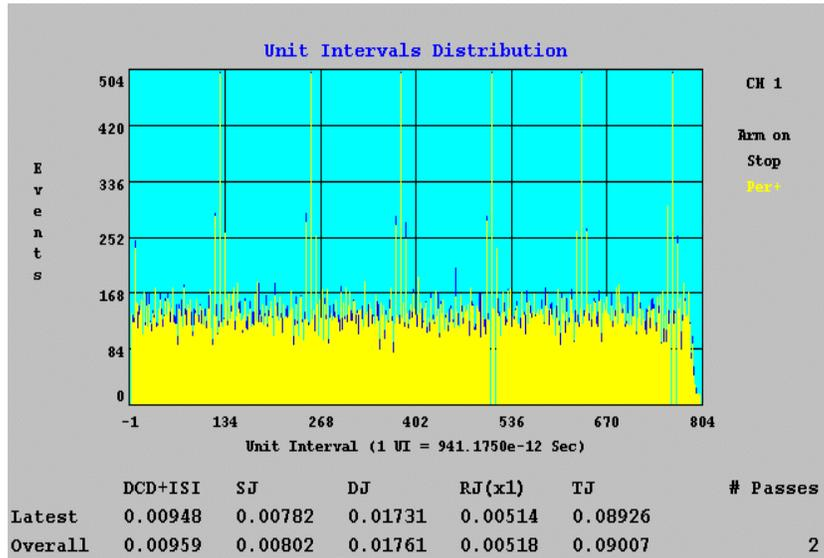
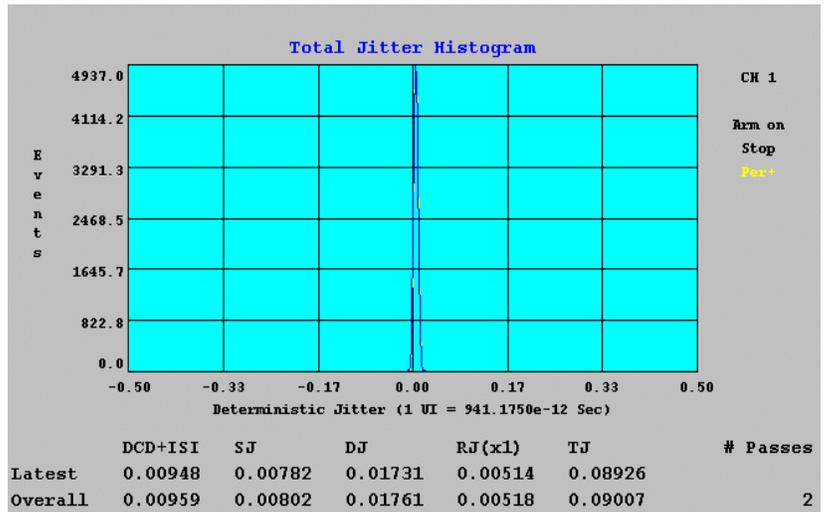
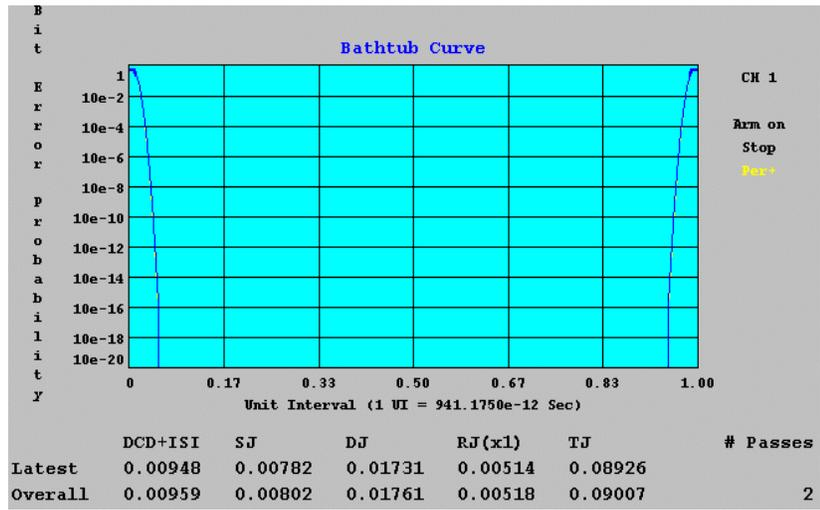
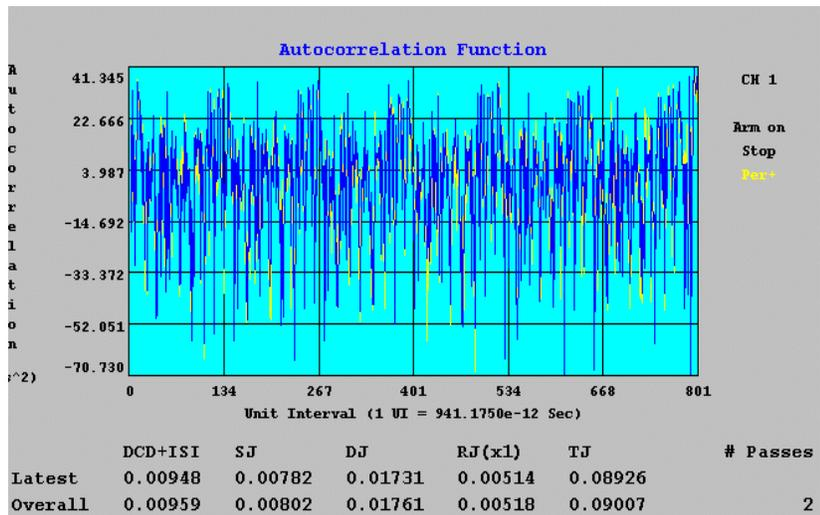

Figure 2a
Figure 3a
Figure 4a
Figure 5a
Figure 2a is showing all of the Unit Intervals (UI) measured by the DTS in AUTOARM mode. The measurements spanned 804 UI. The legend indicates the results of the test. DJ = 17ps (which is the DCD+ISI+SJ) and RJ = 5ps. The RJ bandpass filter in the VI/DataCom software was set from 0.0 to the Nyquist frequency of the pattern. The DCD + ISI was measured at 9.5ps and compares favorably to the DCD+ISI number measured by the HP scope.
Figure 3a is showing an overlay of all of the AVERAGE results taken for each UI bin shown in figure 2a. Remember, each UI bin measured (804 in this case) contains both the AVERAGE and VARIANCE for that bin of all of the data taken.
Figure 4a is of a BATH TUB CURVE for the data taken in Figure 2a. The RJ multiplier was set to 14 sigma so the value of the TJ in the legend is correct for an ERROR PROBABILITY of 10^{-12} .
Figure 5a is showing the AUTOCORRELATION of the VARIANCE of all of the data binned in Figure 2a.
This plot is an FFT of the VARIANCE shown in figure 5a. The SJ is calculated as the highest peak in the spectrum and the RJ is calculated using the rms of the sum of each bin from the Nyquist to 0.0.
If you compare Figures 2a and 2m you will see that in 2m there is an equal number of measurements in each bin. This is indicative of a clock like pattern. What the PATTERN MARKER does is make the random pattern look like a clock like pattern to the DTS. This has the effect of reducing the amount of spectral noise seen in the AUTOCORRELATION plot and consequently makes the FFT results less noisy as well. The DCD + ISI number will be more accurate because the START point for each of the measurements taken by the DTS is always at the same point in the pattern.
Also, notice the DJ from figures 2a and 2m. For 2a the value is 17.3ps while in 2m it is 21.3ps. The value measured by the 54120A was 10ps. The average error of 10ps between the DTS and the 54120A is attributed to DJ in the DTS instrument.